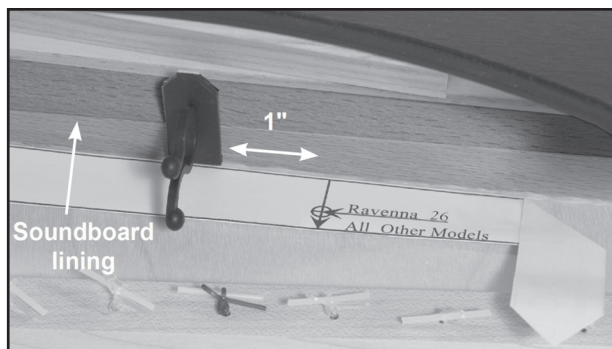

Figure 4 – Marking Template pointing at high F
4. Place the template on the soundboard with the edge against the soundboard lining on the left side of the harp. The lining is the strip of wood that covers the joint between the soundboard and the side of the harp. Position the template so the folded end points directly at the highest F (blue) string (see figure 4). Tape the template in place.
1. **For Dusty Strings FH26, Allegro or Ravenna 26:** Mark an 'X' on the soundboard lining approximately 1" toward the base of the harp from each element location (*see figure 4, previous page*). This location is approximate, and can be adjusted as needed.